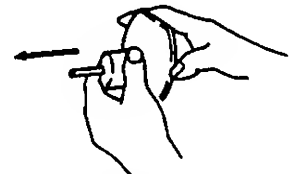

Fig. 13
3. The wound-up portion of the paper can easily be removed from the Winding Shaft by pulling it side way (Fig. 13).